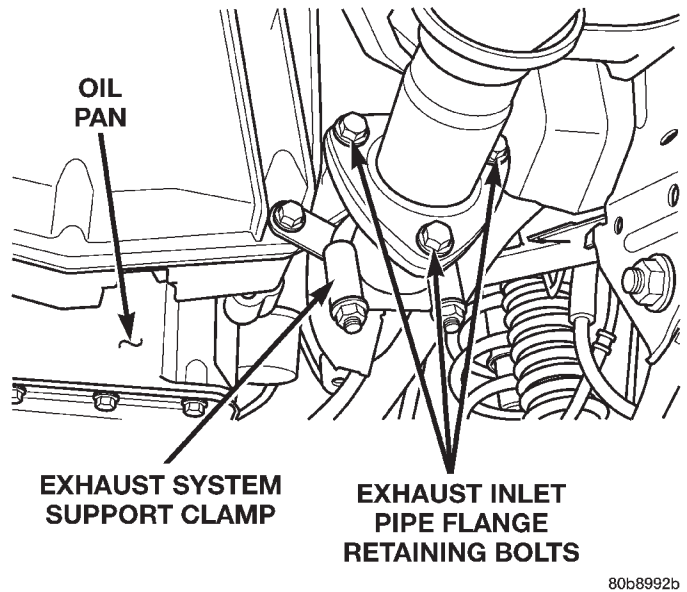
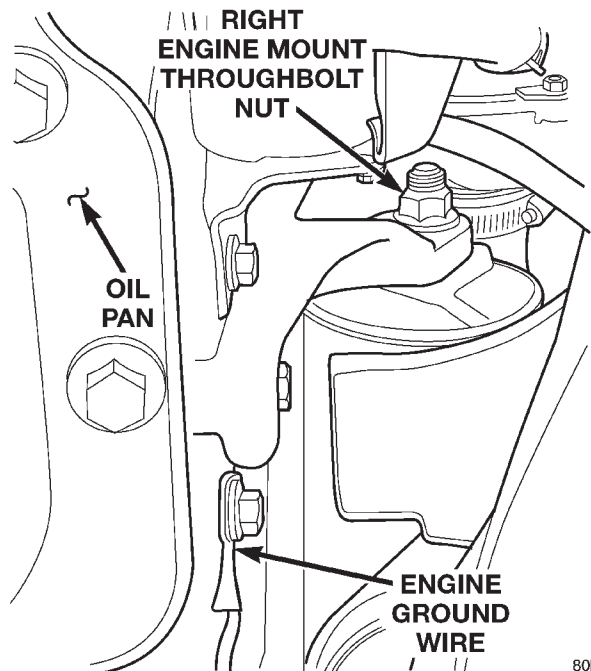

Fig. 24 Exhaust System Inlet Pipe Connection
Fig. 25 Engine Ground Wire Location
(16) Connect the exhaust system at the (3) bolt flange (Fig. 24).
(17) Install the exhaust system support clamp (Fig. 24).
(18) Install the rear driveshaft in its original position.
(19) Install the front driveshaft in its original position.
(20) Install the lower fan shroud panel and retaining bolt.
(21) Install the engine ground wire (Fig. 25).
(22) Lower the vehicle from the hoist.
(23) Working inside the vehicle, install the shifter on the transmission
(24) Install the shifter boot seal.